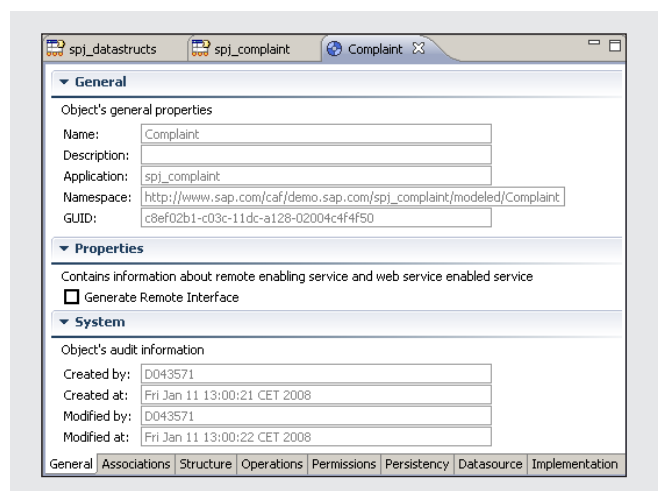

Figure 4 Creating a new business object — Complaint
1. Right-click on the modeled node of the `spj_complaint` project, and choose New Business Object from the context menu. Set the new business object's name to Complaint and click on Finish. A new tab entitled Complaint opens, as shown in **Figure 4**.